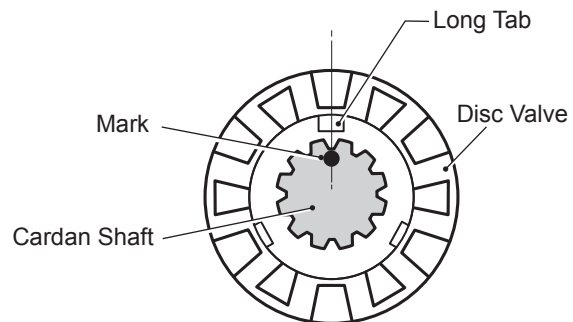

Figure 5a, Cardan Shaft Installation
2. Note the difference in spline length on the cardan shaft (19). Fit the cardan shaft with the long spline end into the axle output shaft (11). After installation mark the top of the cardan shaft spline that lies adjacent to the long tab in the disc valve (15). See Fig. 5a